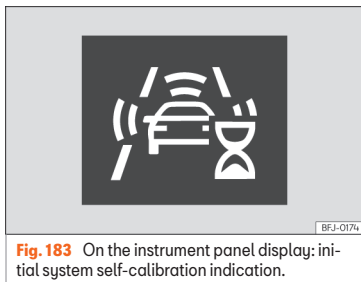

Fig. 183 On the instrument panel display: initial system self-calibration indication.
- In the first few instants of driving after switching on the ignition, due to the system's initial auto-calibration. During this period, a status icon » **Fig. 183** is displayed.